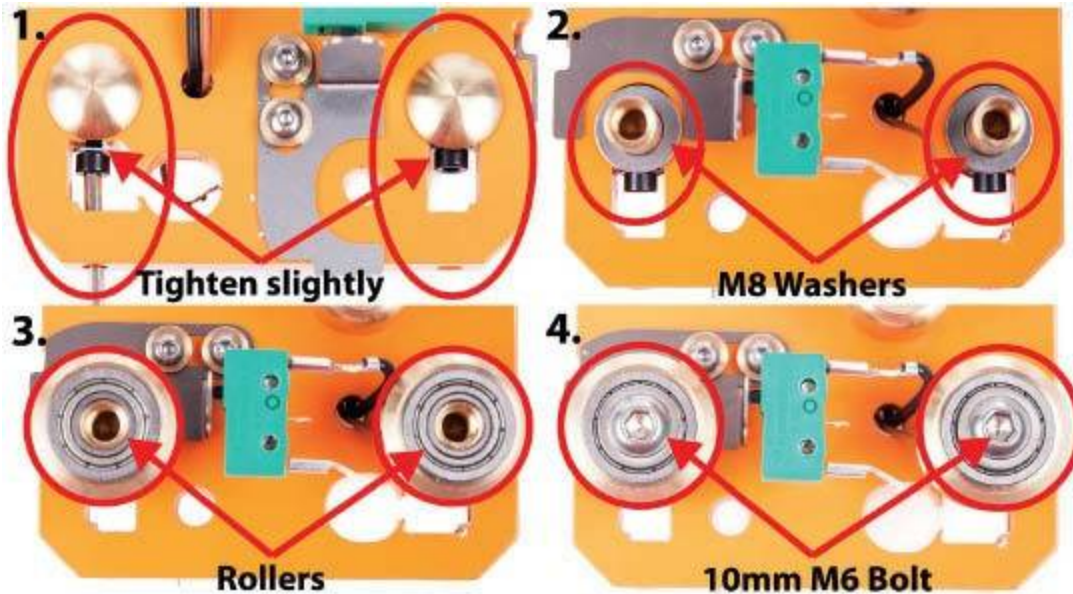

Fig. 2.14 Mounting the first two rollers
- 20.** Insert two of the prepared roller holders in the lower two holes as shown in figure 2.14 (photo #1). Use the end switch bracket as a positioning guide. Make doubly sure that the washers are positioned between the bolt head and the X-Z connector. Tighten the M3 bolts a little to ensure that the roller holders don't fall out of their holes during the steps that follow.